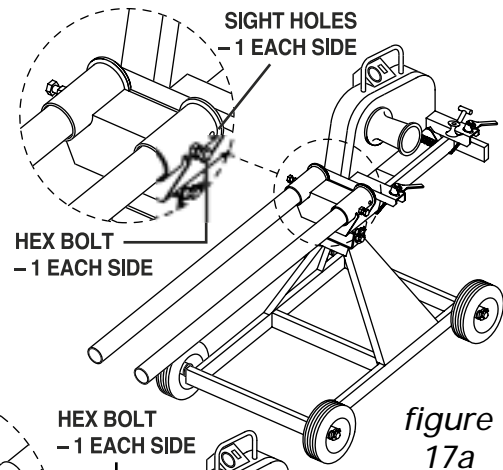

figure 17a
1. Slide the two 4' long boom tubes into the puller mount receiver tubes. Boom tubes must be completely inserted into the receiver tubes. After checking the sight holes to insure the boom tubes are completely inserted, tighten the hex bolt on each side of the puller mount. (*See Figure 17a.*)